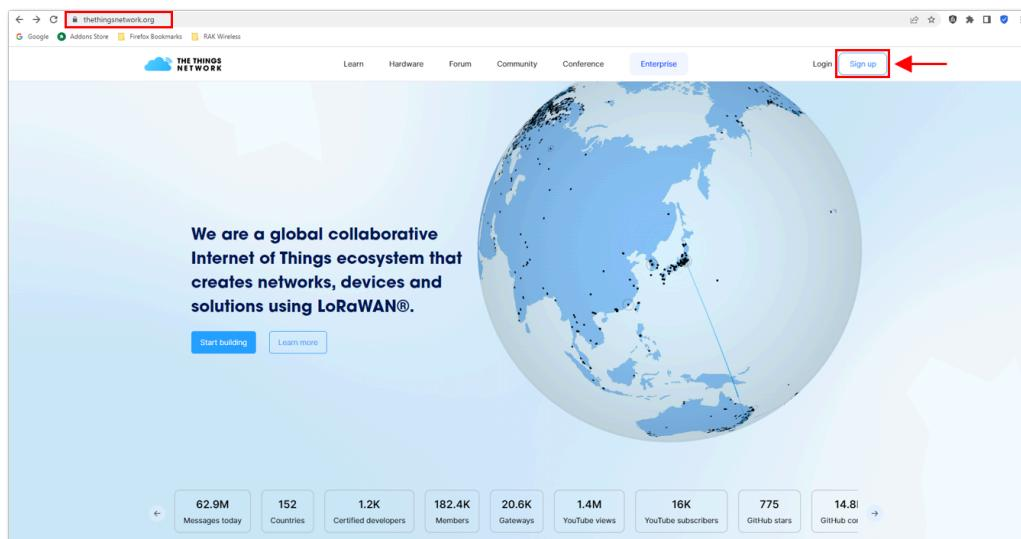
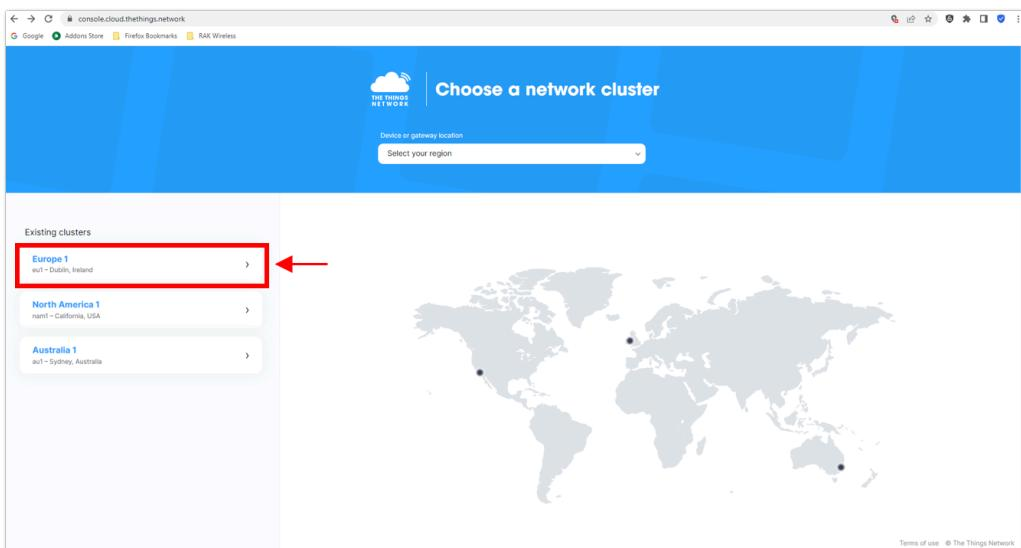

Figure 28: Signing up an account in TTN
Figure 30: Selecting Cluster in TTN
1. The first step is to go to The Things Network and sign up for an account shown in **Figure 28**. Then select a cluster as shown in **Figure 30**.